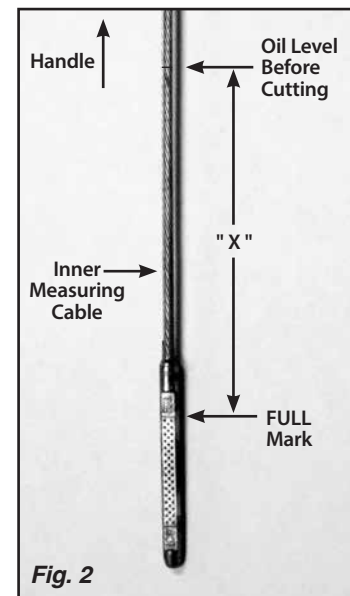

Fig. 2
Step 6: Remove the handle and inner measuring cable from the dipstick tube assembly. Measure the distance from the top of the oil on the inner measuring cable to the "FULL" mark on the inner measuring cable. Write that measurement down ("X"). **Fig. 2**